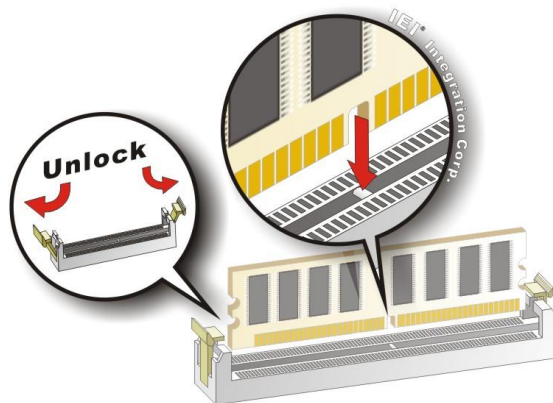

Figure 3-7: DIMM Installation
To install a DIMM, please follow the steps below and refer to **Figure 3-7**.
Step 3: Open the two handles outwards as far as they can. See **Figure 3-7**.
Step 4: Align the DIMM so the notch on the memory lines up with the notch on the memory socket. See **Figure 3-7**.
Step 5: Once aligned, press down until the DIMM is properly seated. Clip the two handles into place. See **Figure 3-7**.